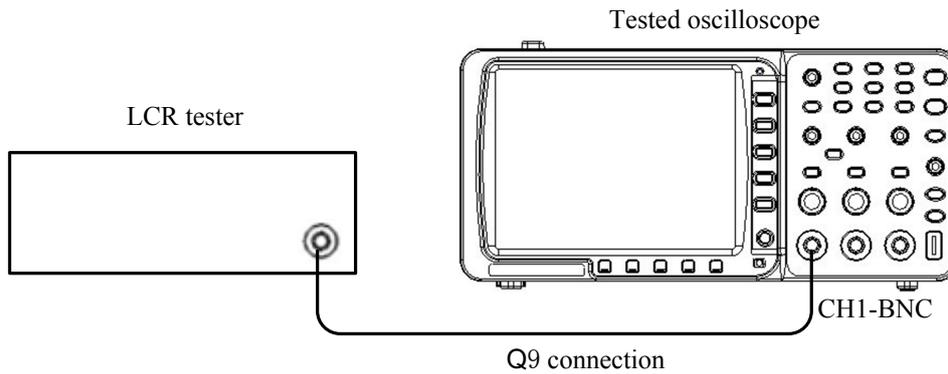

Figure 8: Connection of input impedance inspection
A. As shown by Figure 8 connected: